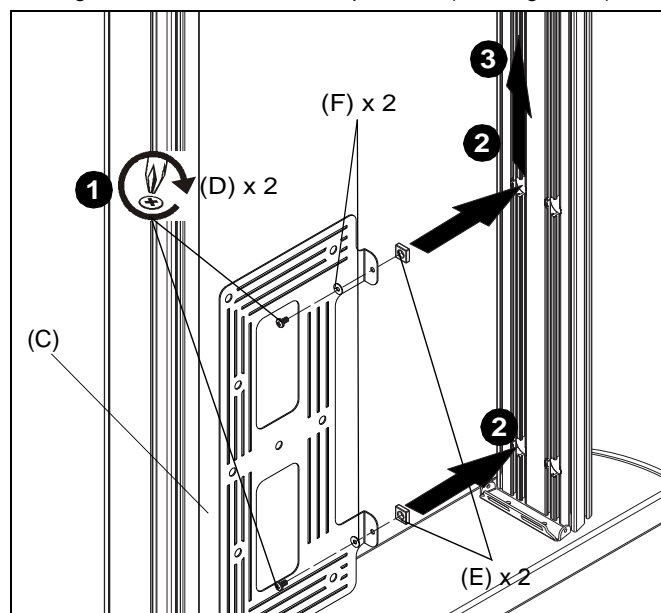

Figure 11
- Loosely install two #10-24 x 3/8" Phillips head machine screws (D) through two #10 washers (F), holes in component bracket (C) and into two #10-24 square nuts (E). (See Figure 11)
- Insert two #10-24 square nuts (E) into two openings on column channel. (See Figure 11)
- Lift component bracket (C) to desired mounting position. (See Figure 11)
- Tighten screws to secure in position. (See Figure 11)